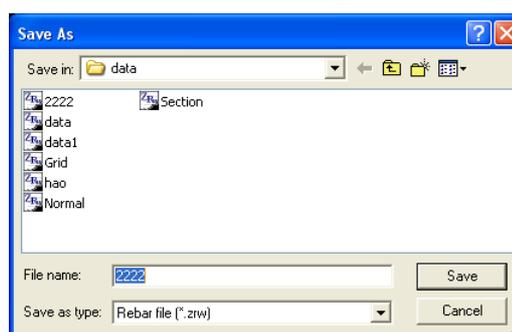

Fig. 2.12
- ▶ press the **Transmission** key, pop-up window shown in fig. 2.12 appears.